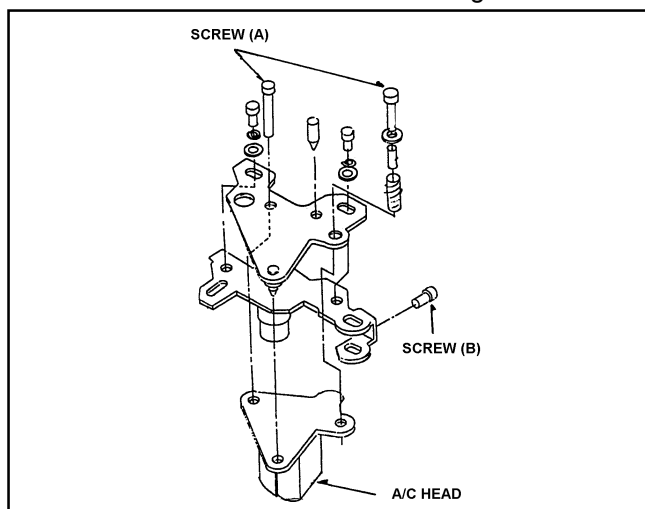

Figure 5-21-2
2. Remove the 2 screws (A) and disconnect the **P4001** on the **RF/CUE P.C.B.** and **P30** on the **MECH I/F**, and then remove the A/C Head from the A/C Head Plate as shown in Figure 5-21-2.